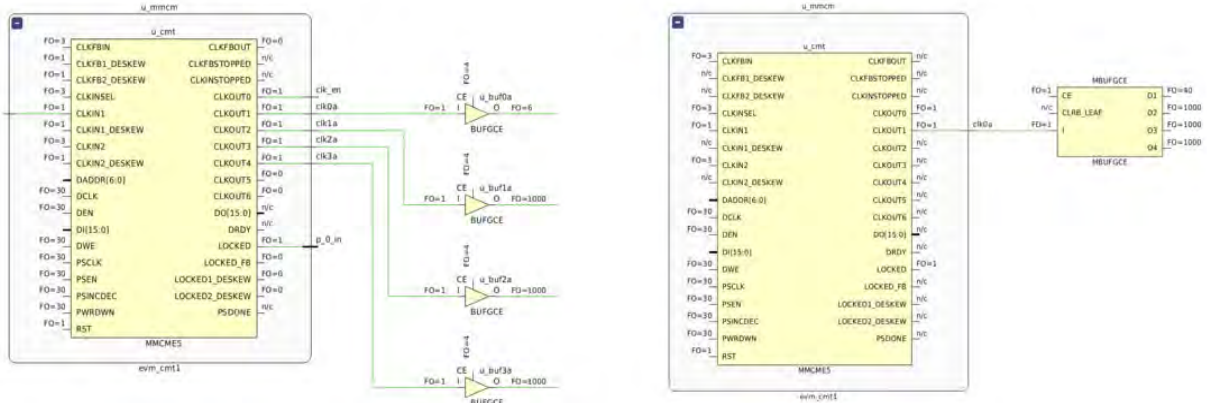

Figure 2-14: MBUFG Optimization
1. The picture in Figure 2-14 shows an MMCM driving several BUFGCE buffers. The `CLKOUTn` driven clocks are integer divides of 1, 2, 4, 8 of the `CLKOUT1` driven clock. After the MBUFG transformation the four BUFGCEs are transformed to a single MBUFGCE and the `CLKOUT1` driven clock is connected to the MBUFGCE I pin. The loads that were driven by the BUFGCEs are connected to the MBUFGCE O1, O2, O3, O4 pins.